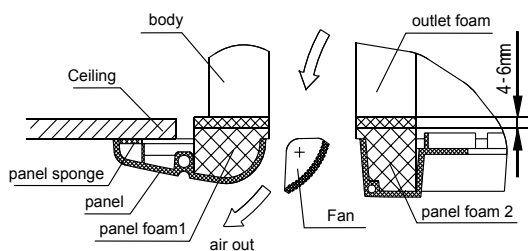

Fig.5-13
- Keep fastening the screws under the panel hooks, until the thickness of the sponge between the body and the panel's outlet has been reduced to about 4~6mm. The edge of the panel should contact with the ceiling well. (Refer to Fig.5-13)